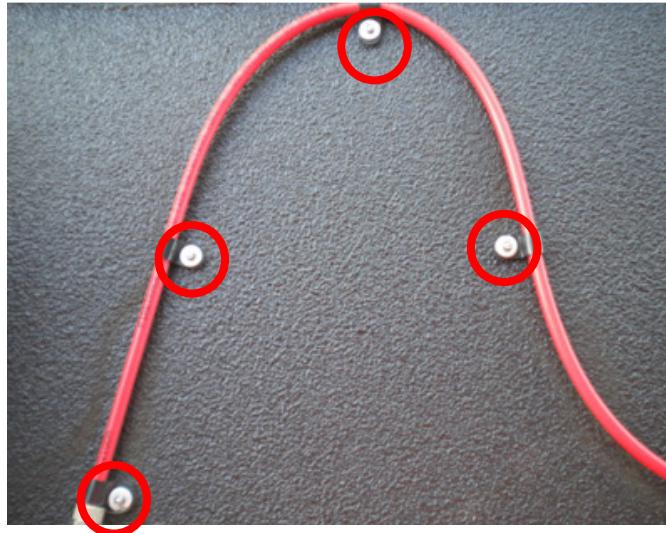

Fig 4 – Fire suppression hose
- e. Using a 1/8 drill bit, drill out all the rivets holding the P-clamps supporting the fire suppression hose under the UCAP cabinet cover on master pack. Discard the washers but save the P-clamps for re-use later. Fig 4